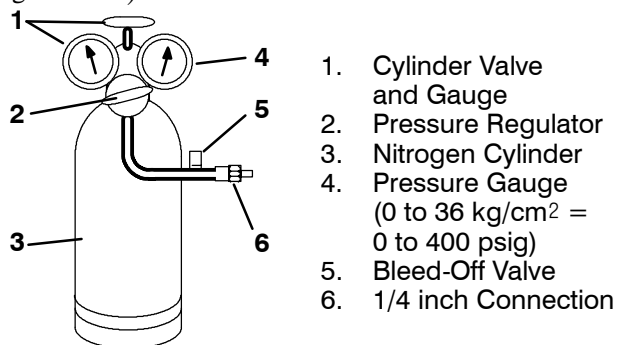

Figure 4-14. Typical Setup for Testing High Pressure Switch
- Connect capillary to a cylinder of dry nitrogen. (See Figure 4-14.)